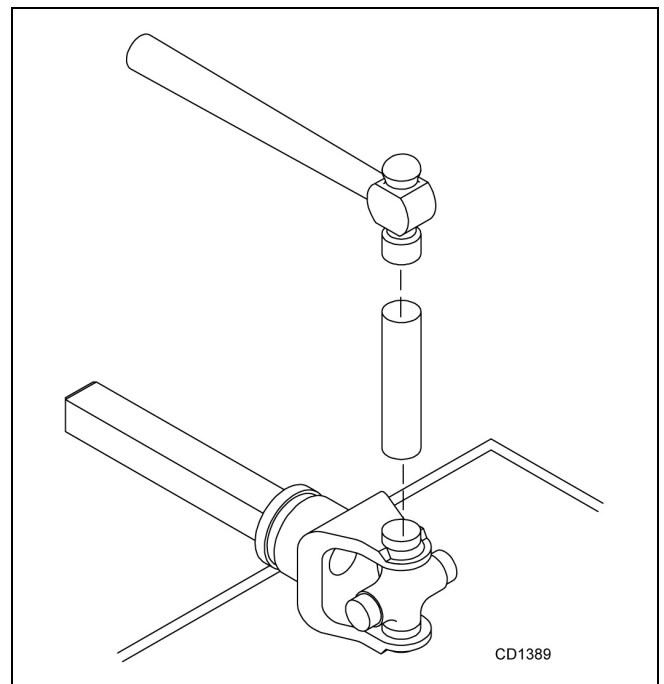

Figure 25. Install Cups
3. Seat cups by placing a drift or socket (slightly smaller than the cup) on cup and rap with a hammer. See Figure 25. Install snap ring and repeat on opposite cup.